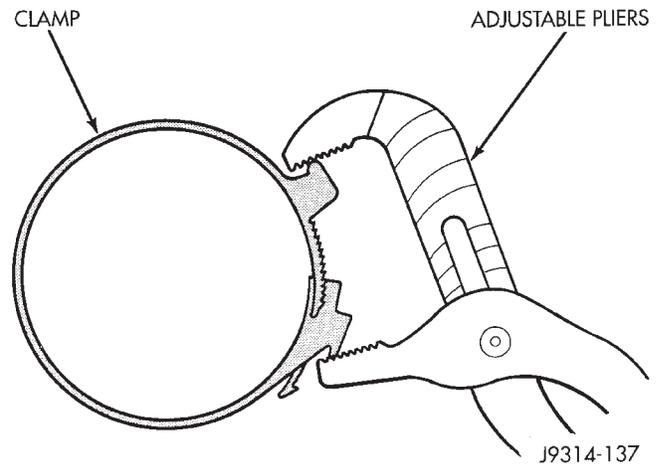

Fig. 85 Clamp Installation
- (3) Install crankcase breather/filter hose to cover.
- (4) Install clamp to cover. Compress the clamp snugly with adjustable pliers as shown in (Fig. 85).